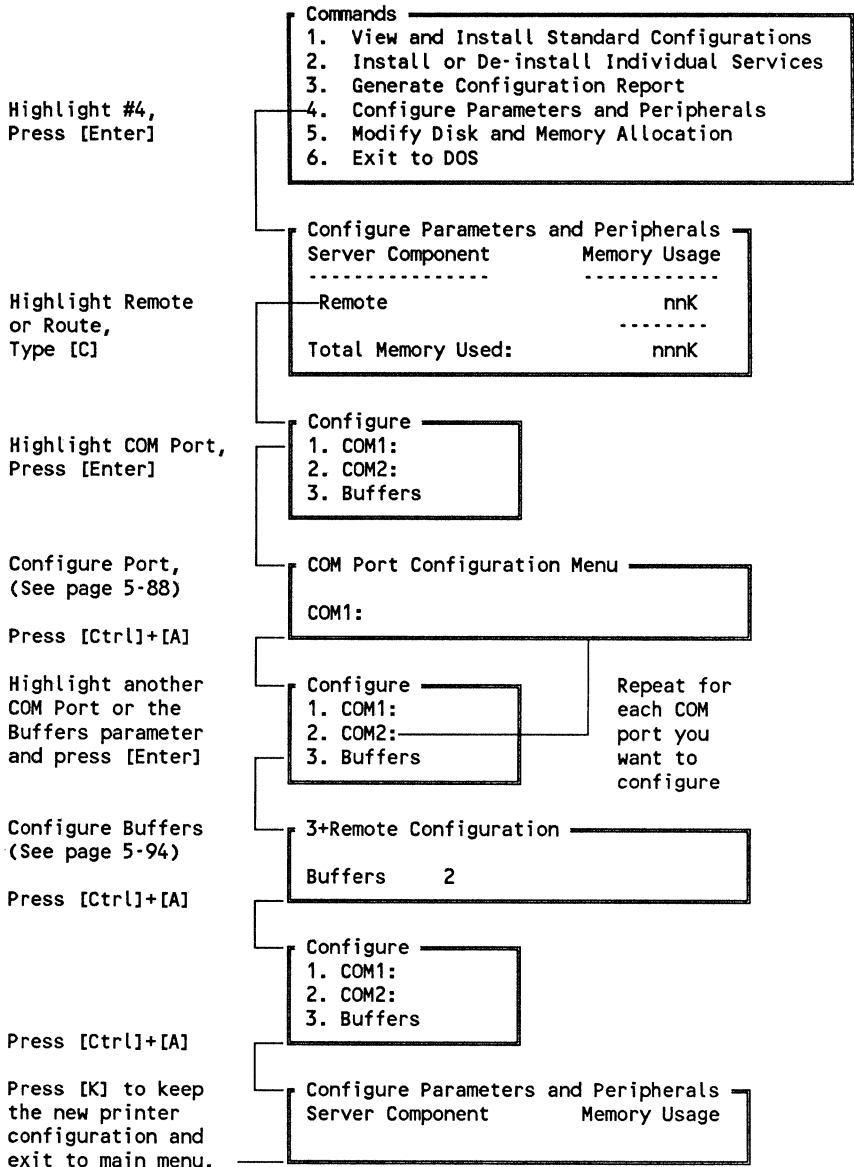
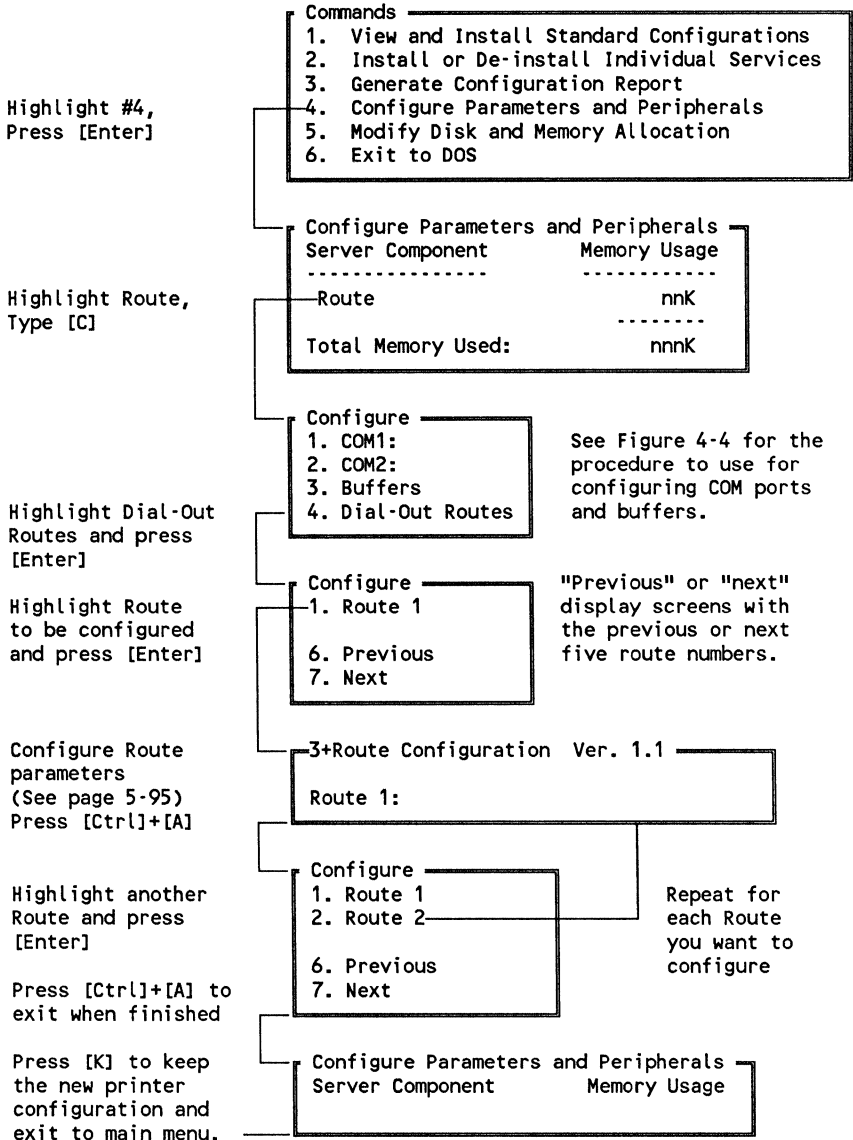

Figure 4-4. How to Configure Network COM Ports
Figure 4-5. How to Configure Network Routes
- ▶ Configure network communication ports after installing 3+Route or 3+Remote (see Figure 4-4); for 3+Route, also configure network routes (see Figure 4-5).